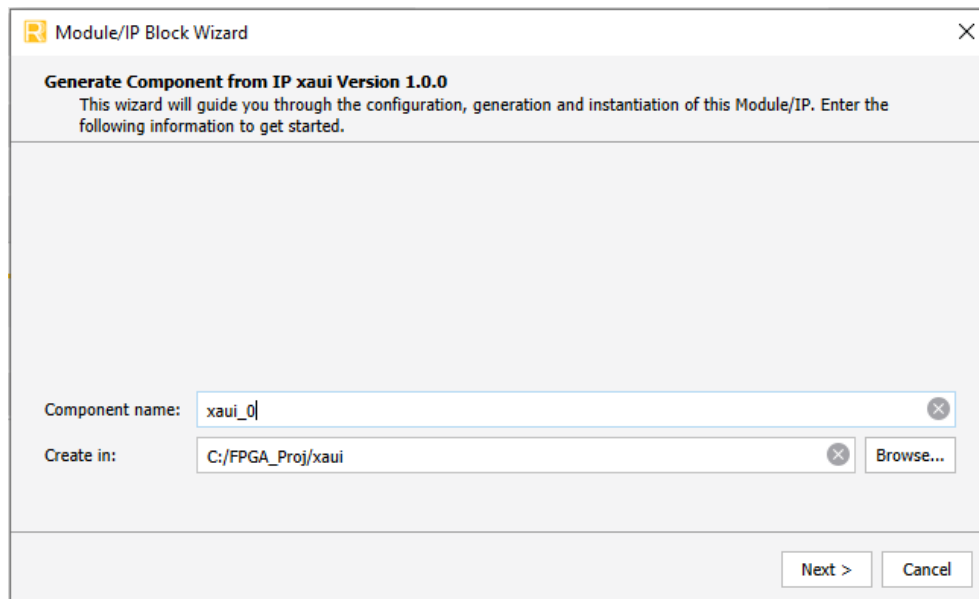

Figure 7.1. Module/IP Block Wizard
2. In the **IP Catalog** tab, double-click **XAU1** under the **IP, Connectivity** category. The **Module/IP Block Wizard** opens as shown in Figure 7.1.
- Click the **Finish** button. All the generated files are placed under the directory paths in the **Create in** and **Instance name** fields shown in Figure 7.1.